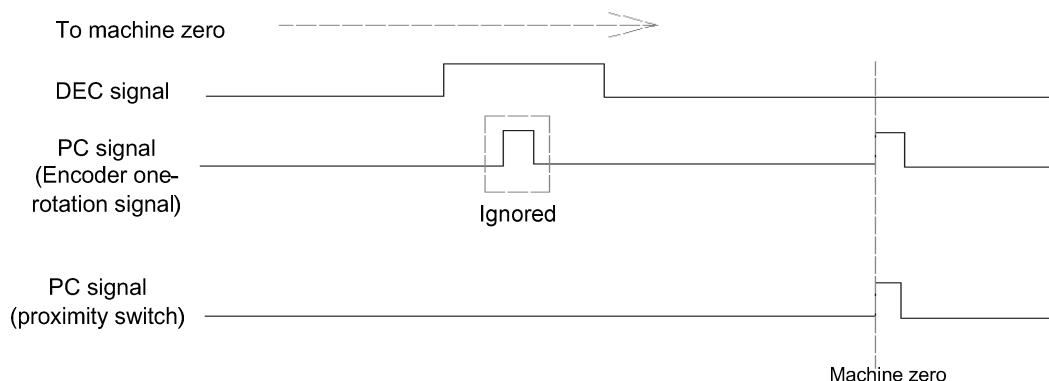

Fig. 2-1-9 Signal illogram
① The illogram of PC signals provided by user is shown in Fig. 2-1-9: